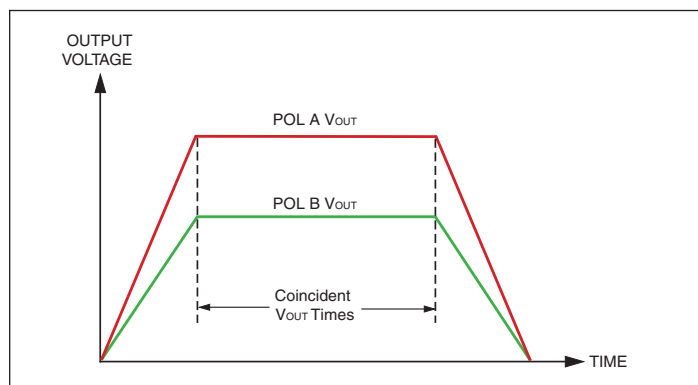
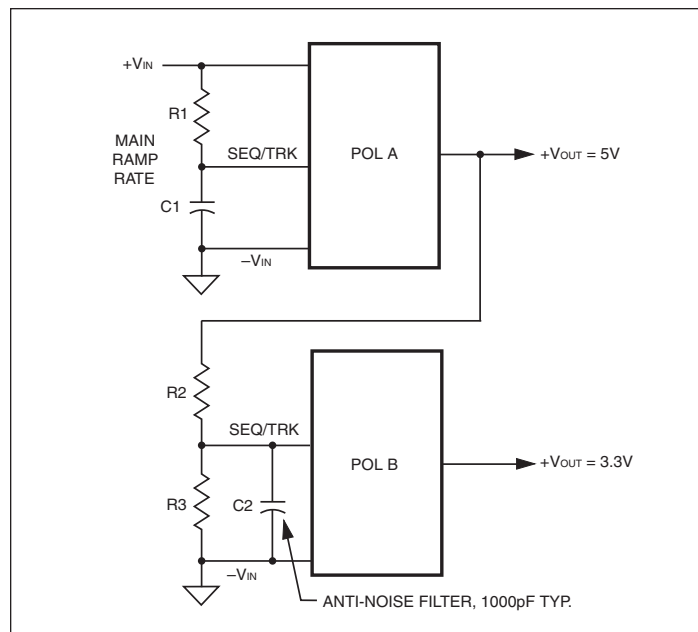

Figure 9. Proportional or Ratiometric Phasing (Identical V_{OUT} Time)
Figure 14. Proportional Phasing
Figure 9 shows two POLs with different slew rates in order to reach differing final voltages at about the same time.
Figure 14 shows both a RC ramp on Master POL A and a proportional track-ing divider (R2 and R3) on POL B. We have also added an optional very small noise filter cap at C2. Figure 14's circuit corresponds roughly to Figure 9's timing for power up.
- [7] The Sequence is a sensitive input into the feedback control loop of the converter. Avoid noise and long leads on this input. Keep all wiring very short. Use shielding if necessary. Consider adding a small parallel ceramic capacitor across the Sequence/Track input (see Figure 14) to block any external high frequency noise.